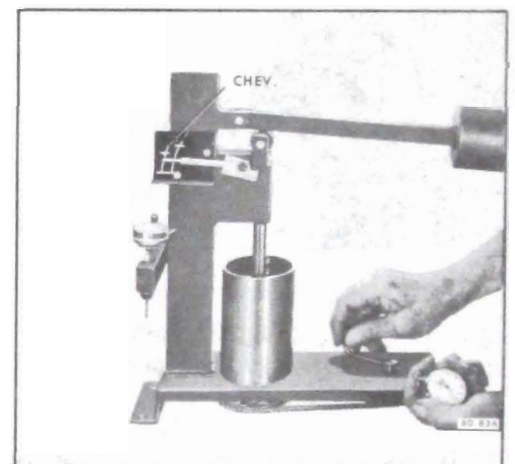

Figure 60-III--Checking Lifter Leakdown Rate
8. If a valve stem has excessive clearance in its guide, the guide must be reamed oversize. See Figure 60-
6. Raise weight arm to allow lifter plunger to come up to its retainer, then lower arm to rest on the ram roller. As pointer starts moving upward, start rotating fluid cup by turning handle one revolution every two seconds. See Figure 60-III.